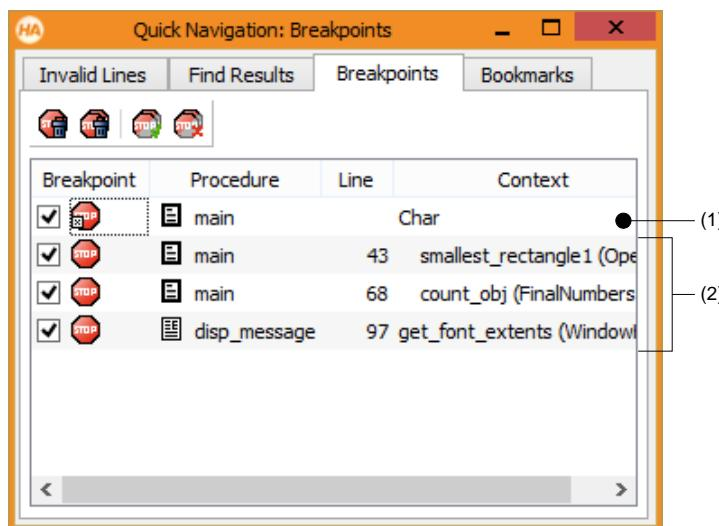

Figure 6.24: Managing breakpoints in the quick navigation window: (1) breakpoint on variable, (2) line-based breakpoints.
The tab card lists all variables or program lines marked with a breakpoint (see figure 6.24). Information about the breakpoints is given in the column Context: Breakpoints on variables (1) list the variable name, while line-based breakpoints (2) list the program line (its line number is given in the column Line).